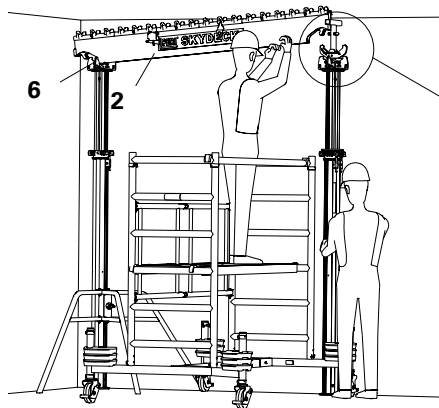

Fig. A4.01
3. Position prop with Drophead (1). Distance from the wall 2.275 m. (Fig. A4.01)